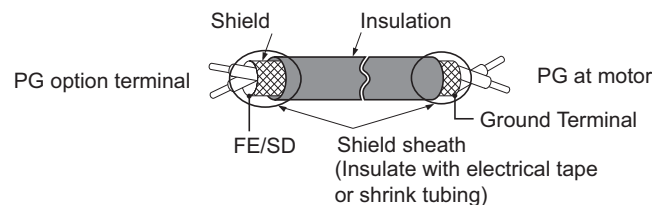
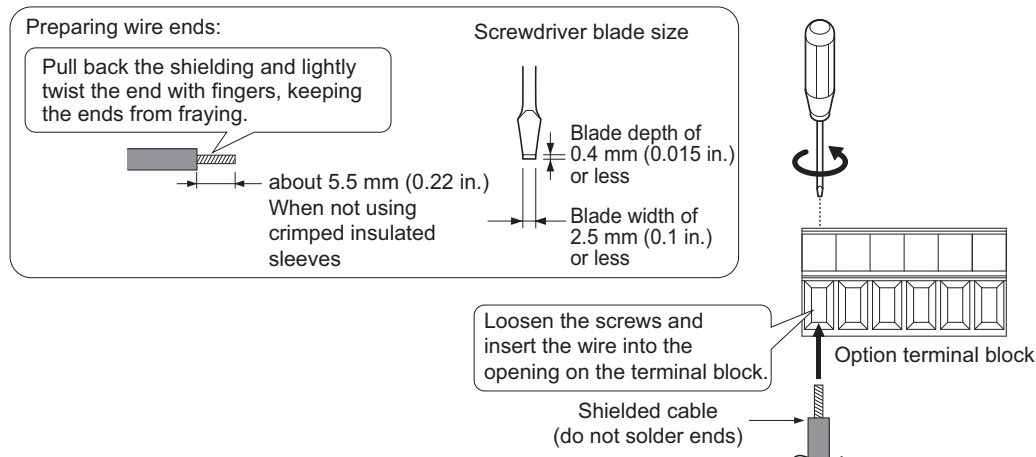

Figure 89 Preparing Ends of Shielded Cable
Figure 90 Preparing and Connecting Cable Wiring
2. There are two screw holes on the drive for use as ground terminals (I). When connecting three options, two ground wires will need to share the same drive ground terminal.
4. Prepare and connect the wire ends as shown in Figure 89 and Figure 90. **Wire Gauges and Tightening Torques on page 153** to confirm that the proper tightening torque is applied to each terminal. Take particular precaution to ensure that each wire is properly connected and wire insulation is not accidentally pinched into electrical terminals.